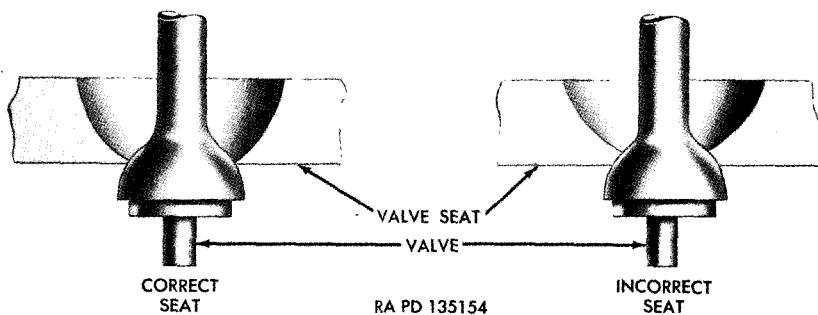

Figure 146. Correct and incorrect valve seats.
3. *Emergency valve and seat.* Inspect condition of emergency valve and seat (fig. 146). If valve or seat is worn or damaged, it must be replaced.